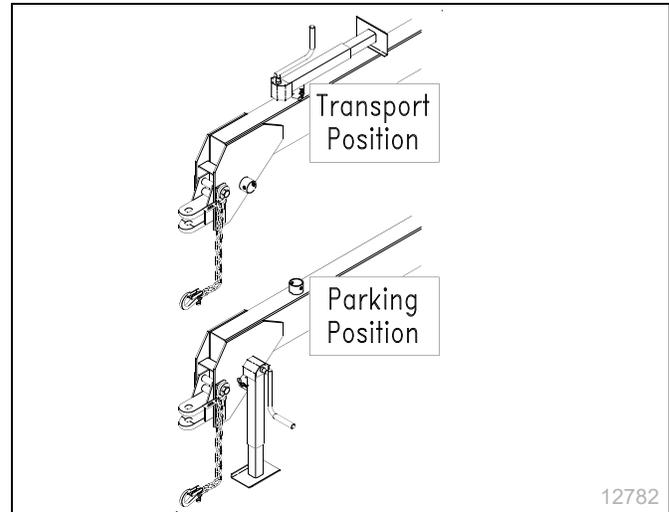

Figure 9
Refer to Figure 9
5. Crank the jack until tongue weight is resting on the tractor drawbar. Unpin the tongue jack from the hitching stub. Pin the jack to the stub on top of the tongue as shown in Figure 9.